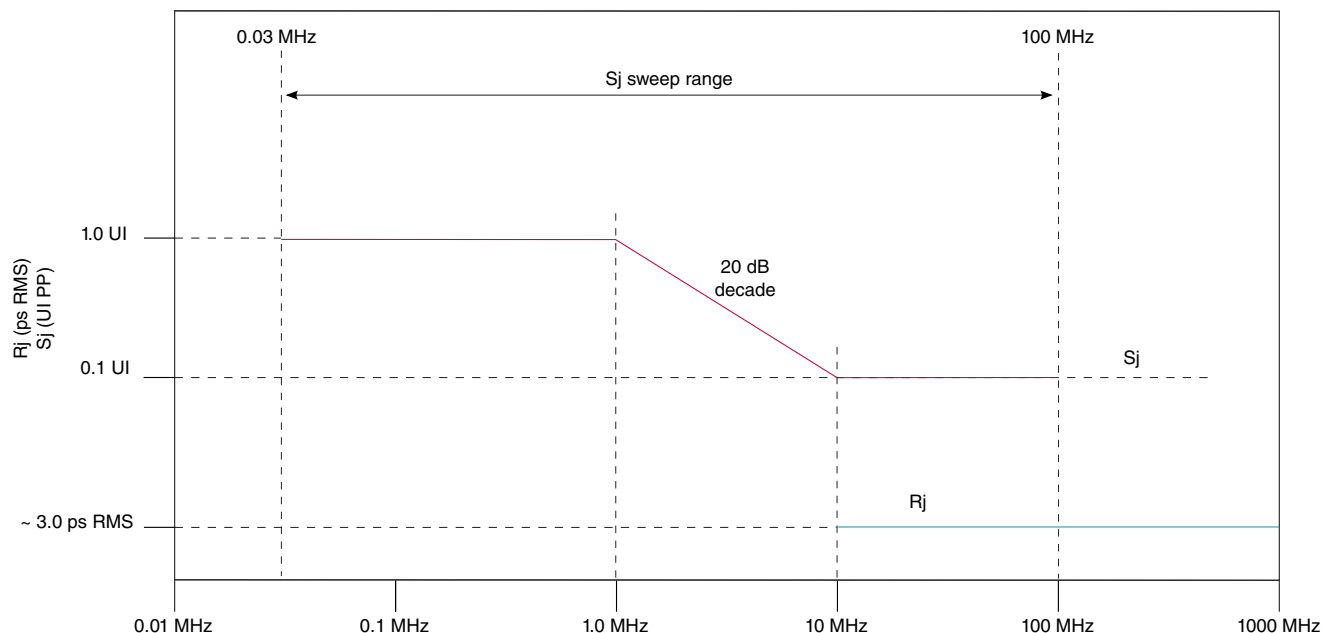

Figure 39. Swept sinusoidal jitter mask
3. The sinusoidal jitter in the total jitter tolerance may have any amplitude and frequency as shown in Figure 39 .
4. Random jitter (Rj) is applied over the following range: The low frequency limit may be between 1.5 and 10 MHz, and the upper limit is 1.0 GHz. See Figure 39 for details. Rj may be adjusted to meet the 0.3 UI value for T _{RX-SV-8G} .